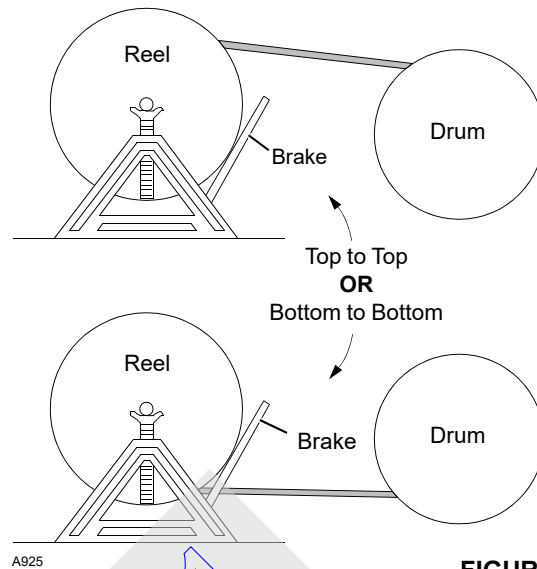

FIGURE 4-38
2. Provide a brake at shipping reel (see Figure 4-38) so wire rope can be wound tightly onto drum.
3. Avoid a reverse bend when winding wire rope onto drum; wind from top of reel to top of drum or from bottom of reel to bottom of drum as shown in Figure 4-38.